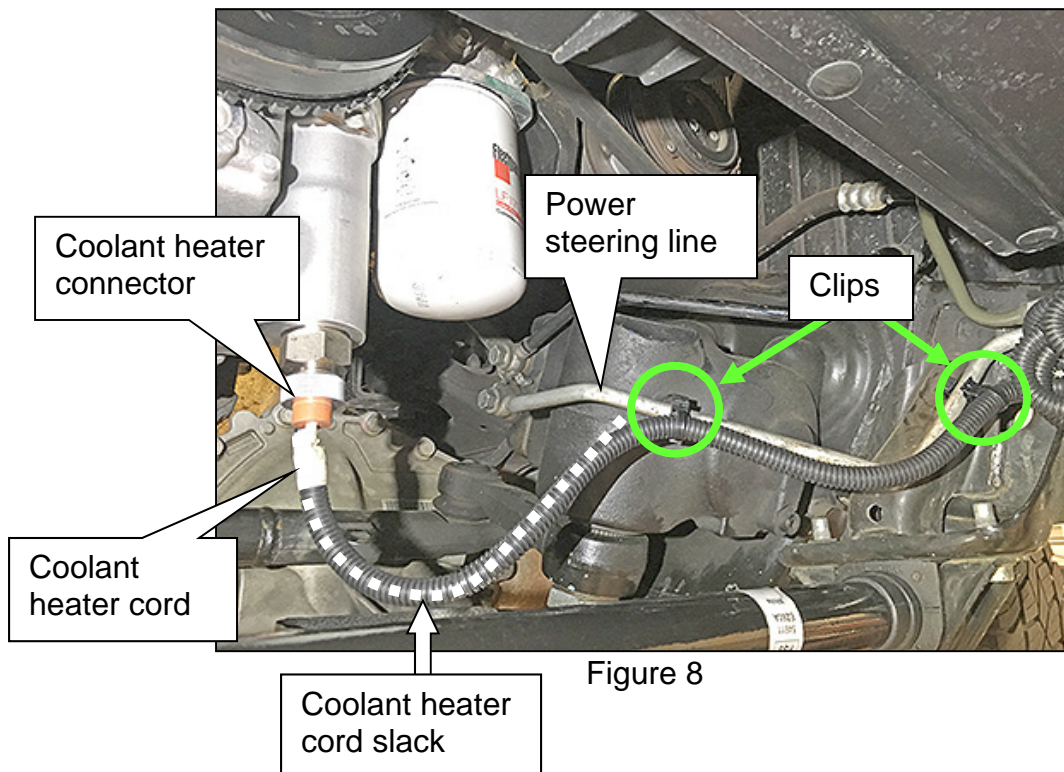

Figure 8
2. Connect the cord to the coolant heater as shown in Figure 8.
3. Clip the cord to the power steering line as shown in Figure 8.
- Leave slack in the cord between the coolant heater connector and the first clip, to the power steering line, as shown in Figure 8.